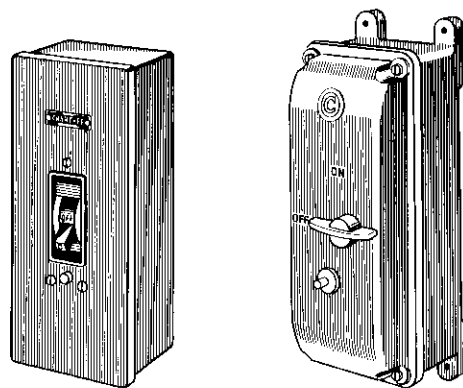

Fig. 21. General purpose (steel) and heavy duty (cast metal) enclosures for earth-leakage circuit breakers.
*Metallic Enclosures for Earth-leakage Circuit Breakers.* For certain applications it may be desirable to mount earth-leakage circuit breakers either in sheet-metal or in completely weatherproof enclosures. In such instances, for the reasons outlined above, special precautions have to be taken to guard against the risk of an earth fault to the metallic enclosure on the "live" side of the circuit breaker. The enclosing cases shown at Fig. 21 are therefore supplied with an insulating lining, and care is taken to ensure that no metallic screws, etc., protrude through this protective lining into the interior of the enclosure. Finally, for complete protection the incoming mains should be taken into the metal enclosure through an insulating bush or a length of non-metallic conduit.